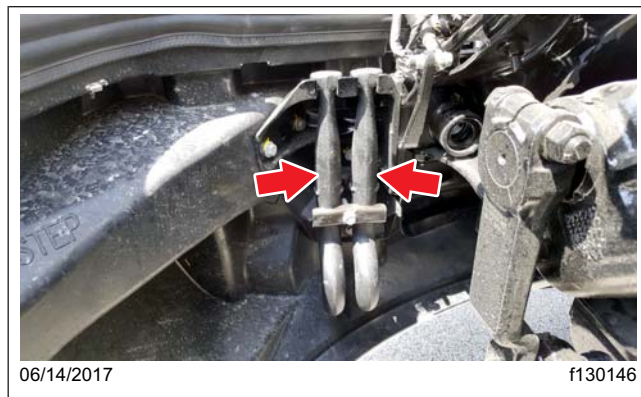

Fig. 24.6, Tow Hooks
2. Open the hood. Remove the tow hooks, located behind the driver's-side bumper. See Fig. 24.6. Close and latch the hood.